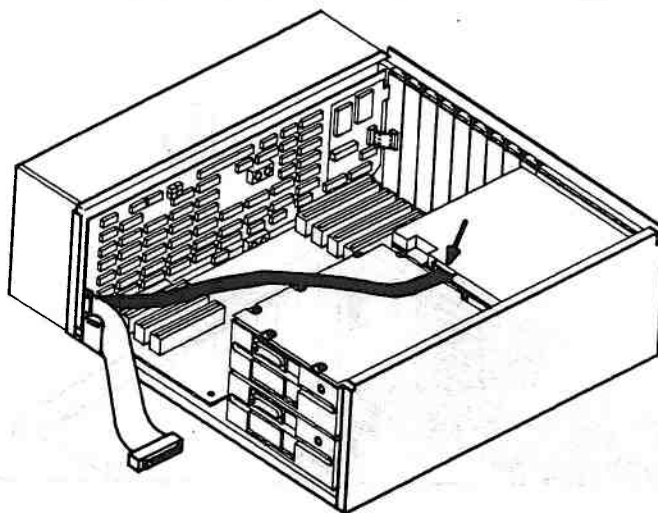

Figure 3-41. Connecting Small Expansion Box Power Cable
20. Connect the power cable from the Small Expansion Box to the connector on the power supply (Figure 3-41).